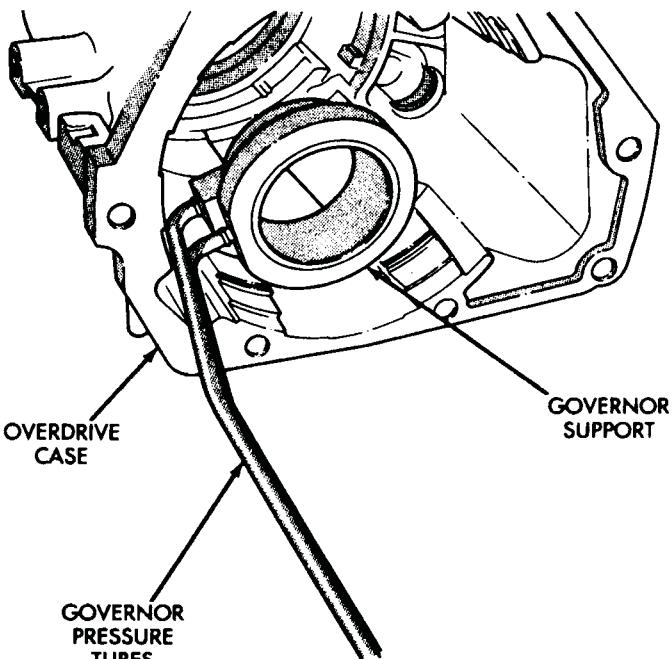

Fig. 13 Governor Support And Tube Assembly Removal
- (13) Remove governor support and tube assembly from case (Fig. 13).